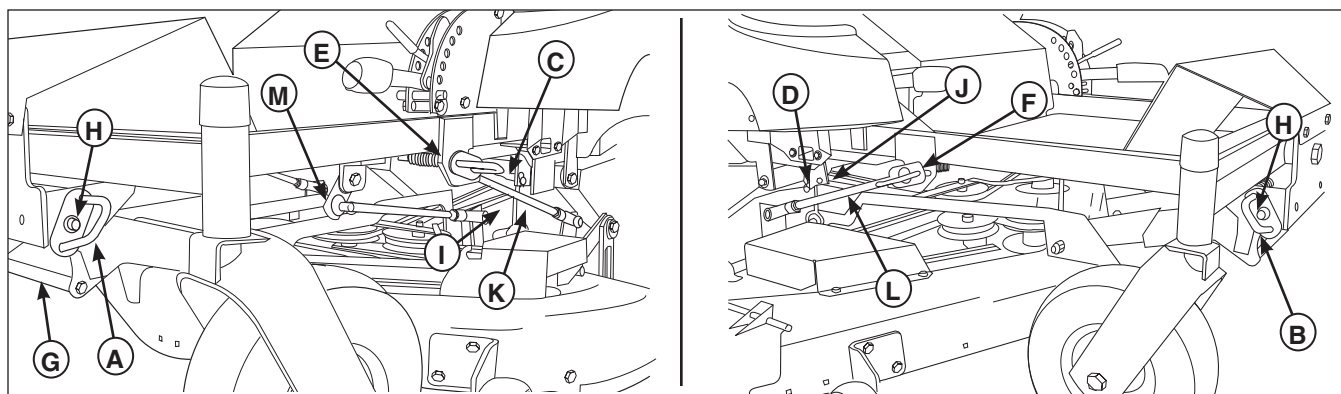

Figure 12. Mower Installation & Removal
1. Pull the hair pins (C & D, Figure 12) and disconnect the deck leveling links (I & J).
2. **44" & 50" Simplicity Models Only:** Pull the hair pin and disconnect the roller bar connecting rod (M).
4. Install the leveling links (I & J, Figure 12) and hair pins (C & D).
6. **44" & 50" Simplicity Models Only:** Install the roller bar connecting rod (M) and the hair pin.
7. Lift the front of the deck using a 2 x 4 as a lever, pull the handle (G) to align the front hanger rod ends (H) with the slots and secure with the front rod locks (A & B).